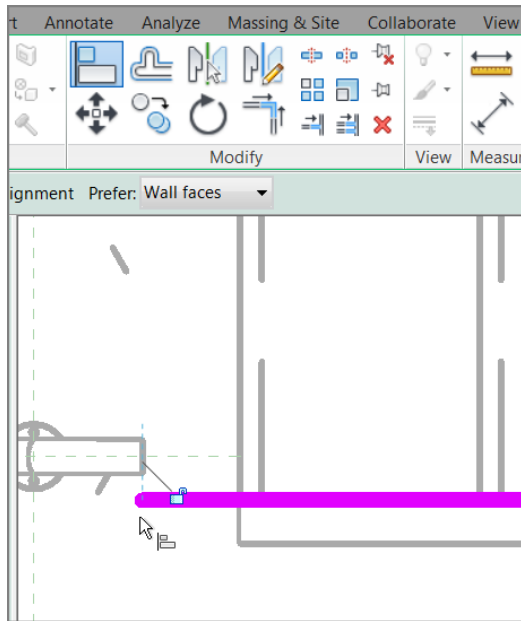

FIGURE 10.19: Aligning the end of the railing to the new family
3. Stretch the magenta line to the point shown in Figure 10.19.
4. For the first alignment, pick the back edge of the family you loaded, as shown in Figure 10.19.
5. Pick the magenta railing line. (When you hover over the magenta line, you'll see an endpoint icon. When you do, click it.) The magenta line extends to the family (see Figure 10.19).